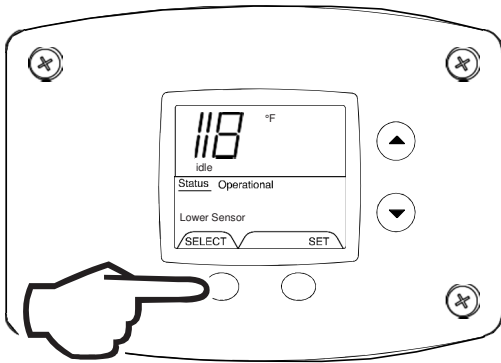

Fig. 49
- For water heaters using two temperature sensors, pressing the 'Select' button again displays the Lower Sensor temperature reading. 'Lower Sensor' will be displayed in the lower left side of the status window of the water heater display (Fig. 49).